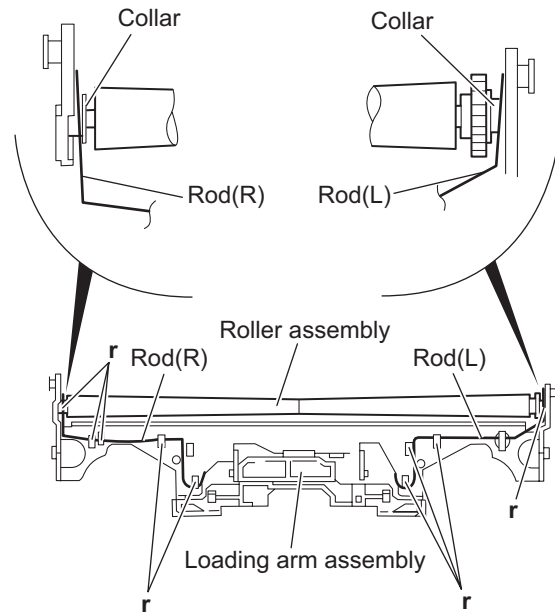

Fig.15
### 3.2.8 Removing the rod (L), rod (R) and roller assembly (See Figs.15 and 16)
- From the bottom side of the loading arm assembly, release the rod (L) and (R) from the joints r. (See Fig.15.)
After attaching the roller assembly to the loading arm assembly, attach the rod (L) and (R). Then attach the rods to the right and left collars of the roller assembly. (See Fig.15.)